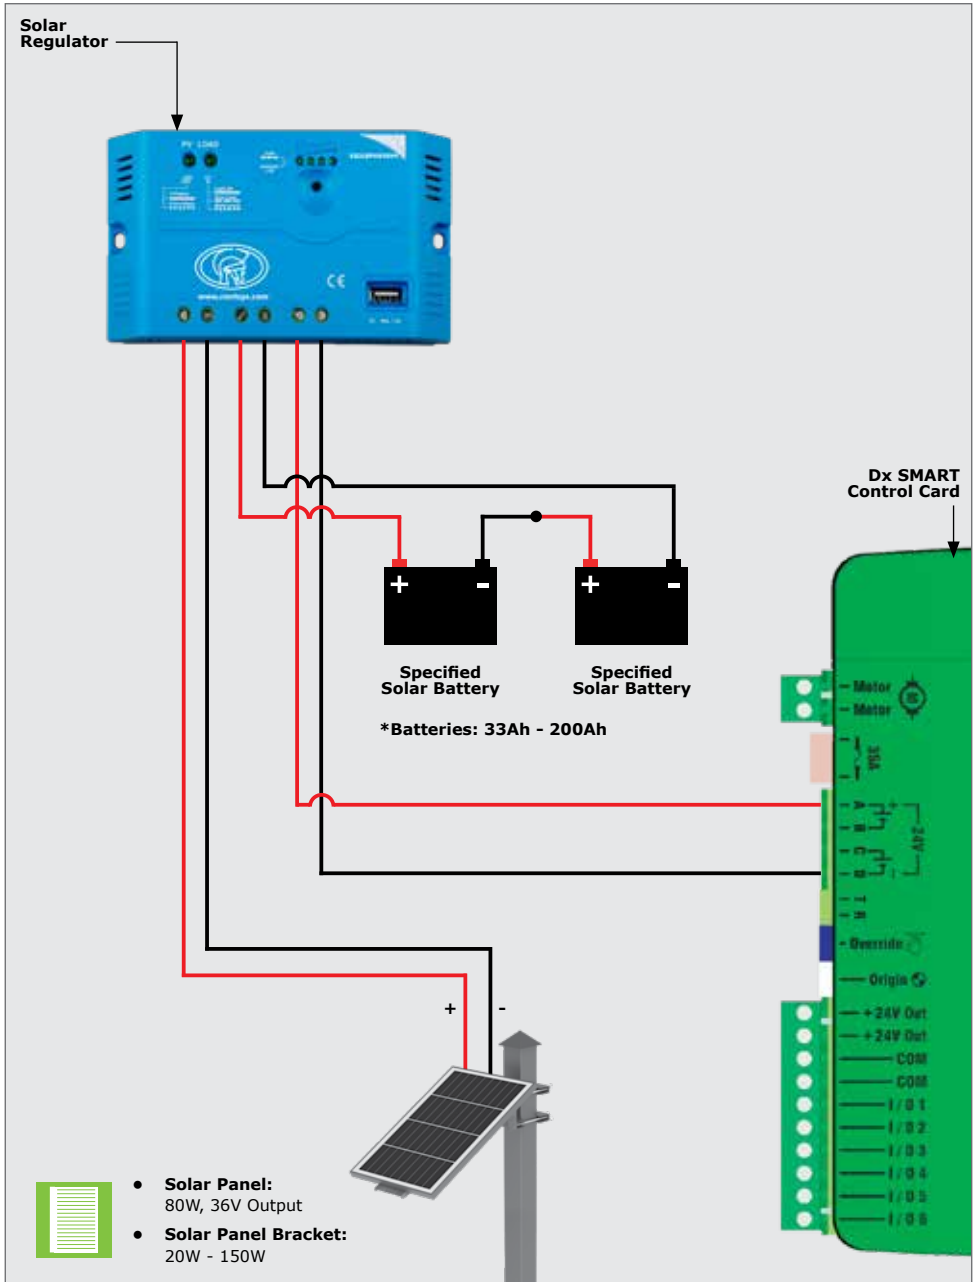

FIGURE 82. SINGLE SOLAR PANEL
1. Scan the QR Code in Figure 82.